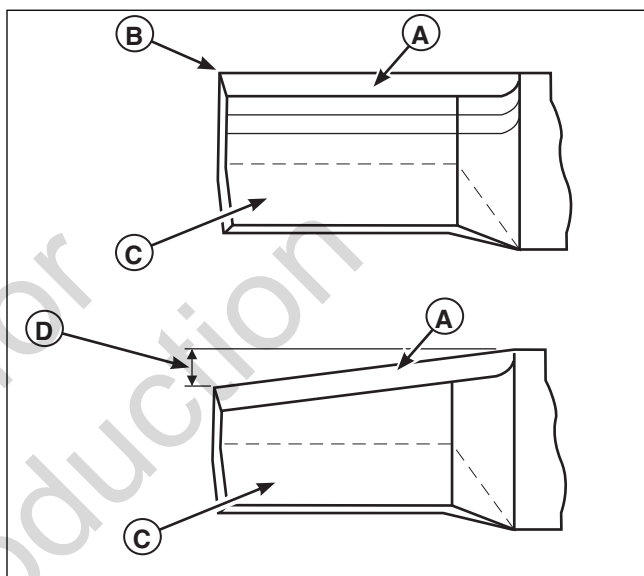

Figure 22. Inspecting the Mower Blade Tips
2. Inspect the mower blade (Figures 22 & 23).